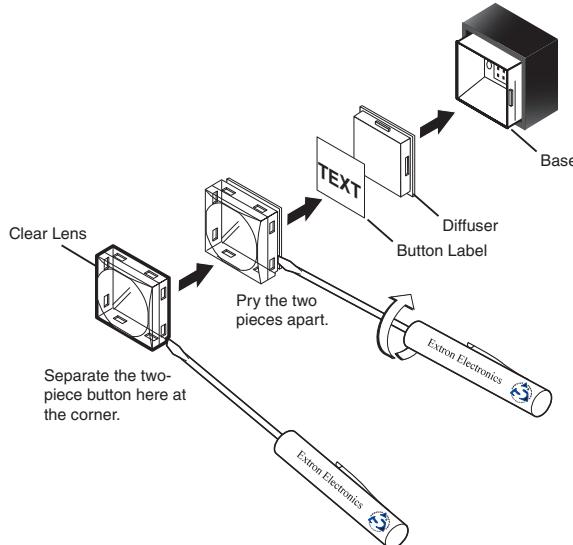

Figure 49. Illuminated Button Label Replacement
- Remove the button from the matrix switcher; use a small, flat bladed screwdriver such as an Extron Tweeker to gently pry a button out from the front panel (see figure 49).